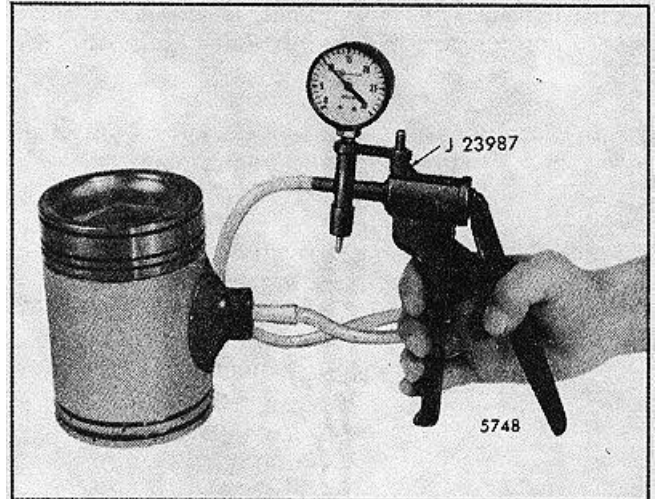

FIG. 22 - Checking Piston Pin Retainer for Proper Sealing
10. One important function of the piston pin retainer is to prevent the oil, which cools the underside of the piston and lubricates the piston pin bushing, from reaching the cylinder walls. Check each retainer for proper sealing with leak detector J 23987 (Fig. 22). Place the suction cup over the retainer and hand operate the lever to pull a vacuum of ten inches on the gage. A drop in the gage reading indicates air leakage at the retainer.